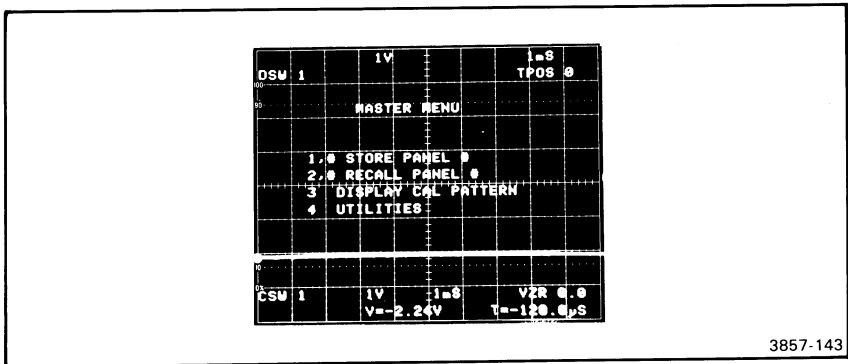

Figure 2-38. 7D20 MASTER MENU.
The 7D20 MENU allows you to select a number of functions using the numbered (1-6) MEMORY DISPLAY keys. When pressed, the MENU key will illuminate and cause the last selected MASTER MENU (see Fig. 2-38) or submenu to be displayed. When initially selected after power-up it displays the MASTER MENU. Selecting MENU terminates **TEST** menus, ID, and clears any displayed text. The MENU is terminated by pressing the illuminated MENU key or by **TEST**, ID, or TEXT from GPIB. The illuminated MENU key will extinguish upon termination and the displayed menu will disappear. The following shows the 7D20 menus and explains their associated function selections.
This Menu function (see Fig. 2-38) permits you to store up to six sets of front panel settings. These settings are retained in memory at power down and can be recalled using menu item 2, which is described next. Table 2-2 gives the items that are stored, other items retain their current or most recent status before a recall command.